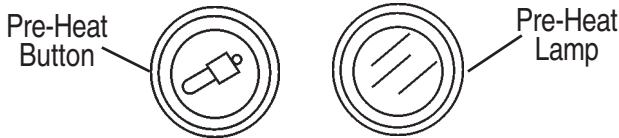

Figure 46. Pre-Heat Button/ Lamp
8. Press and hold the engine preheat button (Figure 46) until the preheat lamp is lit (ON).